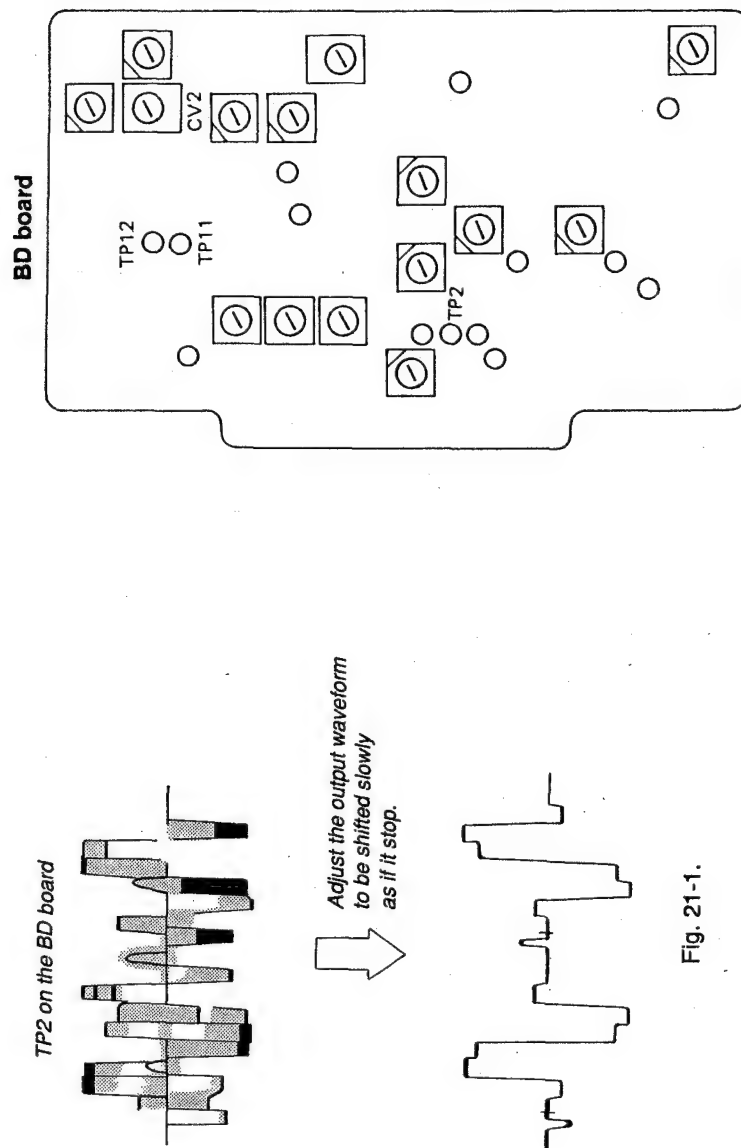

Fig. 21-1.
4. Adjust CV2 of BD board so that the output waveform is shifted slowly as shown in Fig. 21-1.